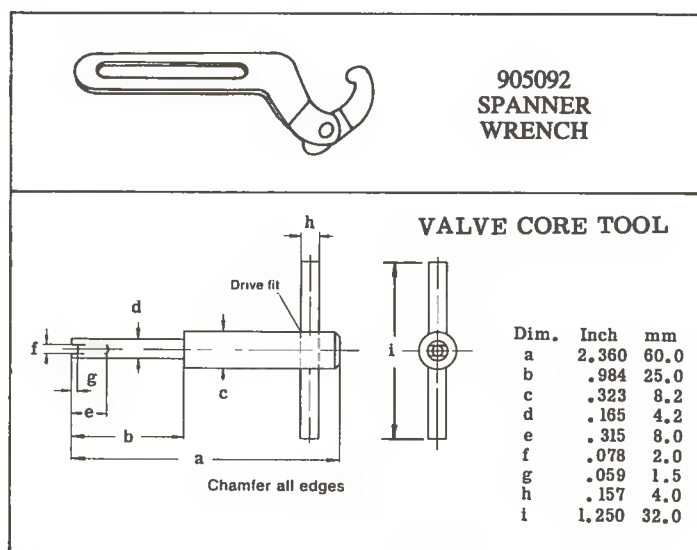

Figure 3. Special Service Tools
The following list of service tools are required to overhaul a Vickers bladder type accumulator. Special service tools are shown in Figure 3.
10. Spanner wrench (see Figure 3)
11. Valve core tool (see Figure 3)
1. For smaller size accumulators, clamp the oil valve (10) portion of the accumulator in a heavy duty vise. Protect the oil valve by inserting two flat pieces of steel between the oil valve and the vise jaws. For larger size accumulators, secure the accumulator in a chain vise.
2. Remove outer and inner valve guard cap (1 & 2) to expose core (3).
3. Press on valve core (3) to release gas from the accumulator bladder.
4. Remove valve core (3) with the valve core tool shown in Figure 3.
5. Loosen hex nut (11).
6. Remove slotted nut (4) with a spanner wrench.
8. Remove and discard back-up ring (5), o-ring (6), and washer (7) from oil valve (10). Use a thin bladed screwdriver.
9. Push oil valve (10) into accumulator shell (14) until retaining ring (8) and sealing ring (9) are exposed.
10. Reach into shell and align the two flat surfaces of retaining ring (8) with shell opening. Remove retaining ring from shell.
11. Reach into shell and remove sealing ring (9) from shell. Bend or compress the sealing ring to facilitate removal.
12. Remove oil valve (10) from shell (14).
13. Remove hex nut (11) and nameplate (12).
14. Reach into shell opening and remove bladder (13). Slightly fold and twist the bladder for easier removal. If the bladder is very slippery, hold onto bladder with a clean rag.